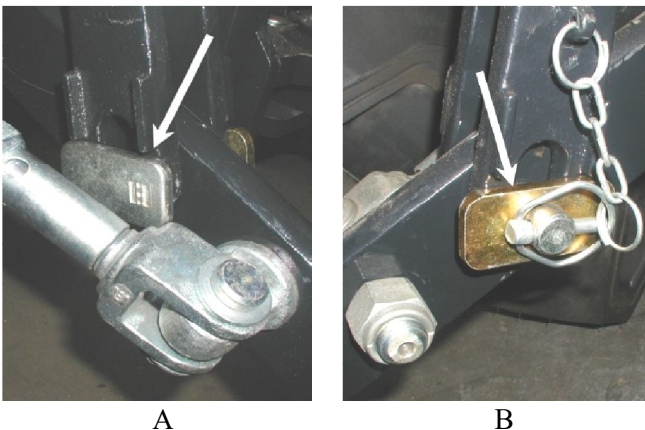
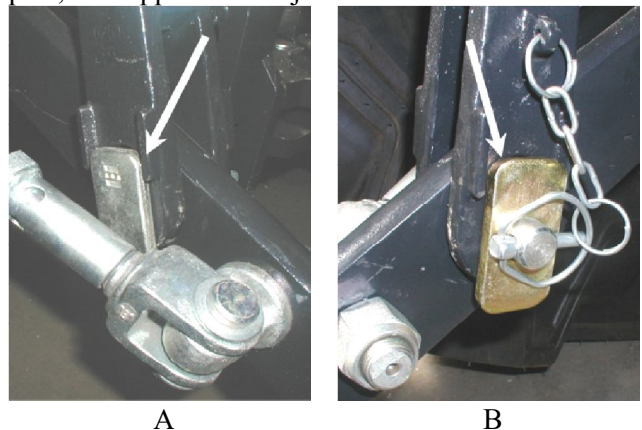

Fig. 4.6.3. Lift rods attachment non shifting to lower
Fig. 4.6.4. Lift rods attachment shifting to lower links
- level the implement in horizontal plane by changing length of lift rods. There are two methods of rods mounting to lower links – setting the head and pin washer horizontally (Fig. 4.6.3), which ensure non shifting connection of lift rod to lower link or setting the head and pin washer vertically (Fig. 4.6.4), which ensure fluid height adjustment of lift rod due to which implement position is adopted to tractor in horizontal plane,